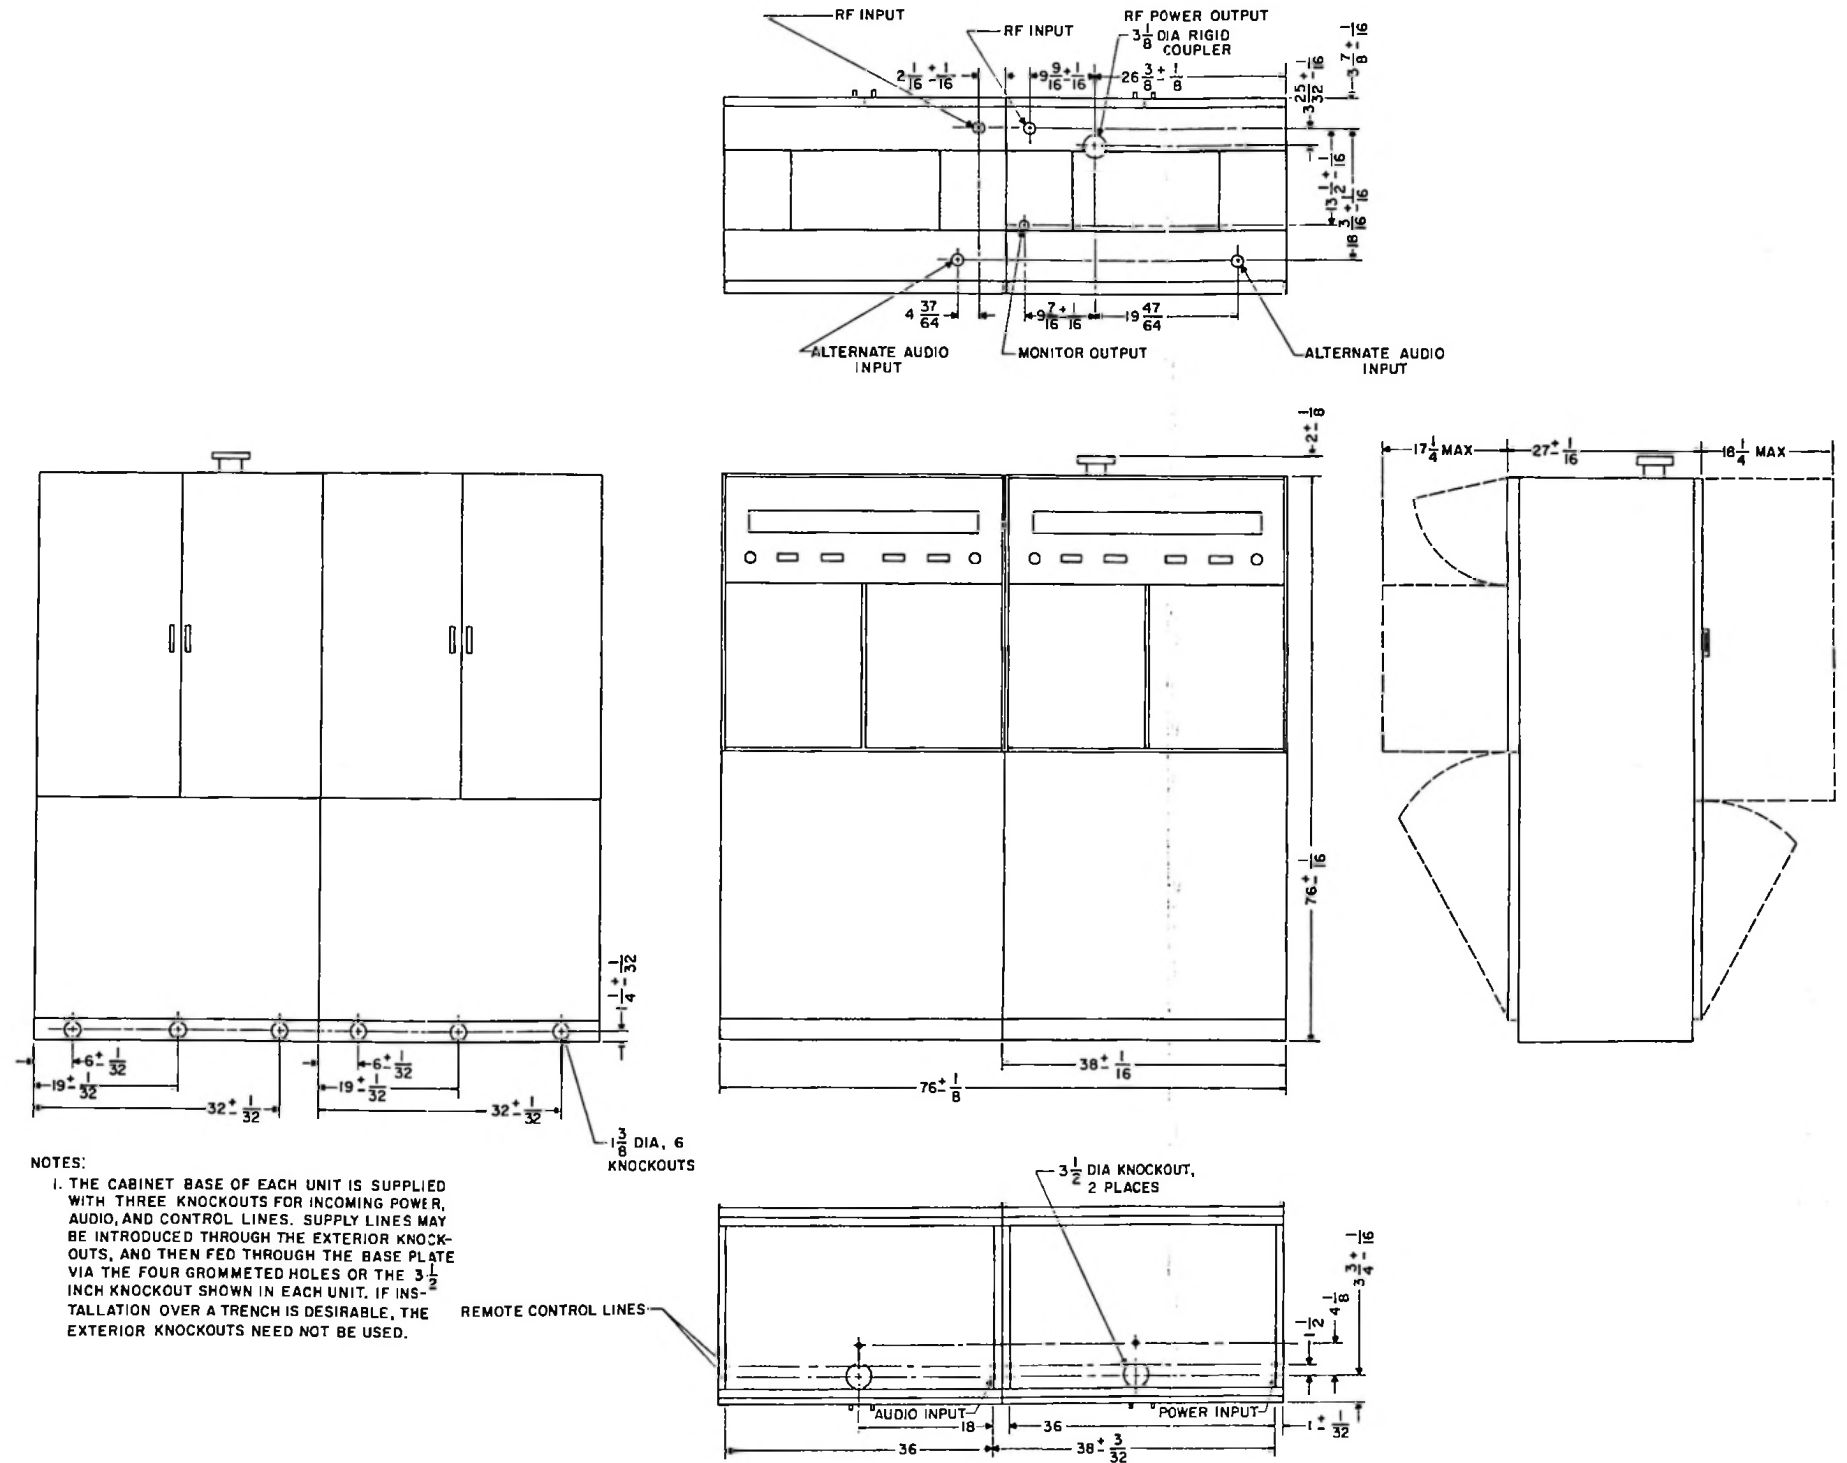

Figure 2-1. 830F-1A 10-Kw FM Broadcast Transmitter, Outline and Installation Drawing
Plan transmitter and wiring placement carefully before starting installation work. Refer to figure 2-1. This
diagram shows the location of all wiring openings in the transmitter cabinets. As will be noted in figure 2-1, several alternate wiring arrangements can be used. Select the combination that most nearly suits the station requirements.
Refer to figure 2-1 for assistance in making the following external connections.
b. Connect the FM monitor to the monitor output on the top of the 10-kw amplifier cabinet. Refer to figure 2-1. Use type RG-58/U coaxial cable to make this connection.